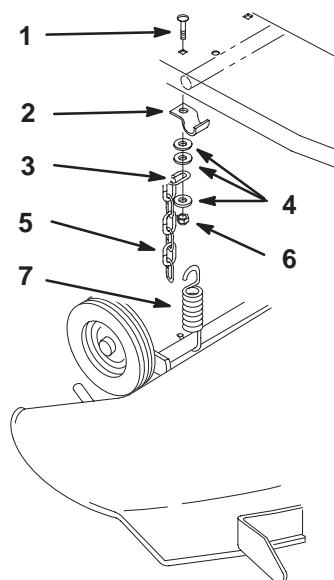

Figure 22
- Remove the existing nut and clip from the bolt on the outer right support rod on the rear footrest (Fig. 22).
- Replace the existing carriage bolt with a longer carriage bolt (5/16 x 1-1/4 in.) (Fig. 22).
3. Place the retaining clip and 2 washers (5/16 in.) onto the carriage bolt (Fig. 22).
4. Install a link of one end of the chain onto the carriage bolt and secure it with a third washer and the nut removed in step 1 (Fig. 22).
5. Hook the spring around the gage wheel shaft on the mower (Fig. 22).